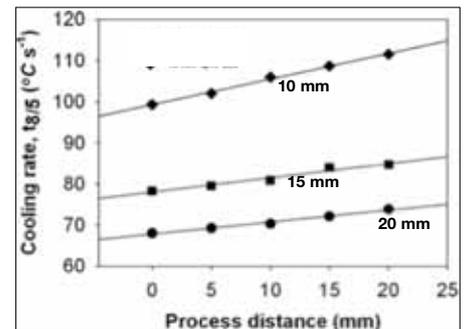
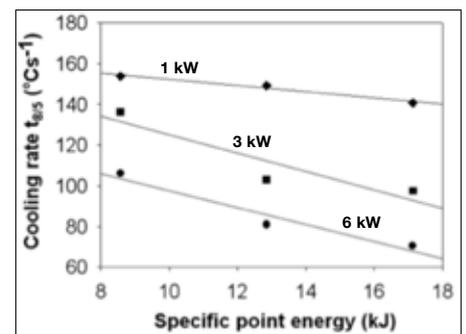

Figure 5: Effect of spot diameter and process distance at constant (6 kW) laser power on cooling rate
Figure 6: Effect of specific point energy on cooling rate for a range of laser powers and at 5 mm process distance
It is possible that the main effect of process distance on the final weld is in removal of diffusible hydrogen. As shown in Figure 5, for process distances ≥ 15 mm the weld cools down to below 800°C before it being reheated by the laser. Now it has been shown that the hydrogen diffusion coefficient of steel increases with temperature increases sharply above 200°C [7]. By selecting a process distance such that the laser beam impinges on the weld metal when it has cooled down to just above 200°C, then the period for which the weld temperature is maintained above 200°C will be maximised, which will favour greatest removal of diffusible hydrogen.
Figures 5 and 6 show the primary results for effect of laser power (1, 3 and 6 kW) and spot size (10, 15 and 20 mm) on weld cooling rate, where $t_{8/5}$ is the average rate between 800 and 500°C.
Figure 5 shows that at constant laser power the cooling rate ($t_{8/5}$) is lower the greater the beam diameter, which corresponds to a greater spread of laser power over the surface of the material. The figure also shows a gradual but steady decrease in cooling rate ($t_{8/5}$) as both heat sources are brought close together. As a result, the cooling rate at zero process distance was found to be the lowest for all laser powers and beam diameters investigated. However, the $t_{8/5}$ cooling rate does not take into account the overall time that the weld temperature is above 800 °C. As seen in figure 4, the overall time the weld stays above this temperature is longer for process distances ≥ 15 mm.
Equation (1) shows that at constant laser power E_p is proportional to beam radius, so in figure 6 the trend of lower weld cooling rate with increasing E_p is consistent with the trend shown in figure 5. More important, figure 6 also shows that the cooling rate is lower the higher the laser power.